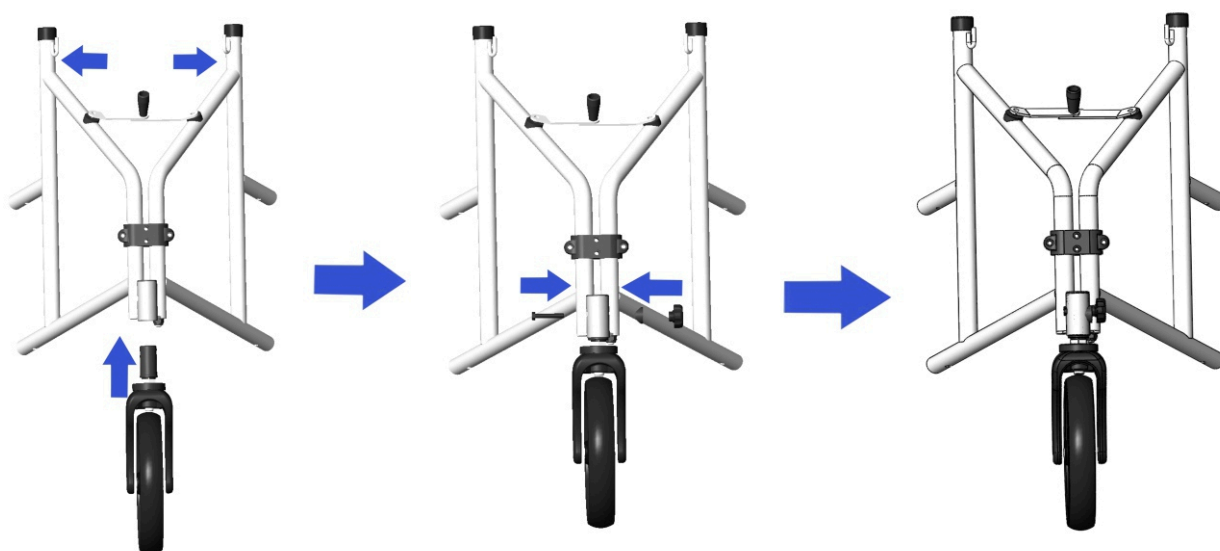

Figure 2
Step 1 (as shown in Figure 2):Take out the main frame assembly (1) and the front wheel assembly (9). Push the left and right frames of the main frame assembly outward by hand. Align the front wheel nut hole of the front wheel assembly (9) with the front wheel sleeve hole of the main frame assembly (1). Insert the front wheel assembly (9) into the front wheel sleeve of the main frame assembly (1). Then insert the hex bolt M6×35 (14) through the front wheel sleeve hole of the main frame assembly (1) and align it with the front wheel nut hole of the front wheel assembly (9). Take the small knob nut with curved washer (11), install it onto the hex bolt M6×35 (14), and tighten it.